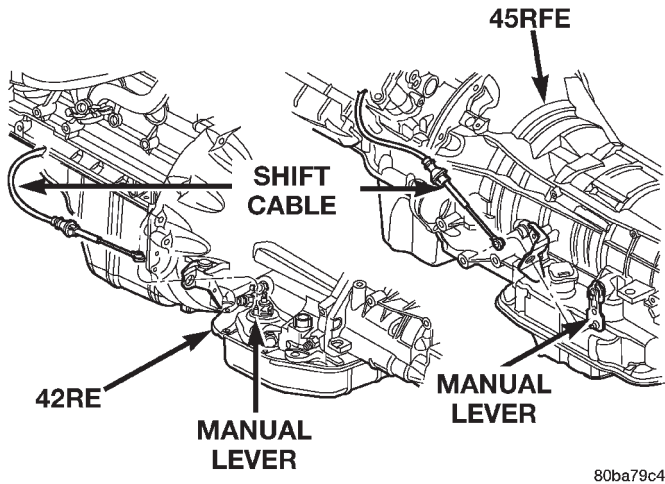

Fig. 15 Transmission Shift Cable
(11) If transmission is being removed for overhaul, remove transmission oil pan, drain fluid and reinstall pan.
(12) Remove fill tube bracket bolts and pull tube out of transmission. Retain fill tube seal. On 4 x 4 models, it will also be necessary to remove bolt attaching transfer case vent tube to converter housing.
(13) Mark torque converter and drive plate for assembly alignment.
(14) Rotate crankshaft in clockwise direction until converter bolts are accessible. Then remove bolts one at a time. Rotate crankshaft with socket wrench on dampener bolt.
(15) Mark propeller shaft and axle yokes for assembly alignment. Then disconnect and remove propeller shaft. On 4 x 4 models, remove both propeller shafts.
(16) Disconnect wires from park/neutral position switch and transmission solenoid.
(17) Disconnect gearshift cable from transmission manual valve lever (Fig. 15).